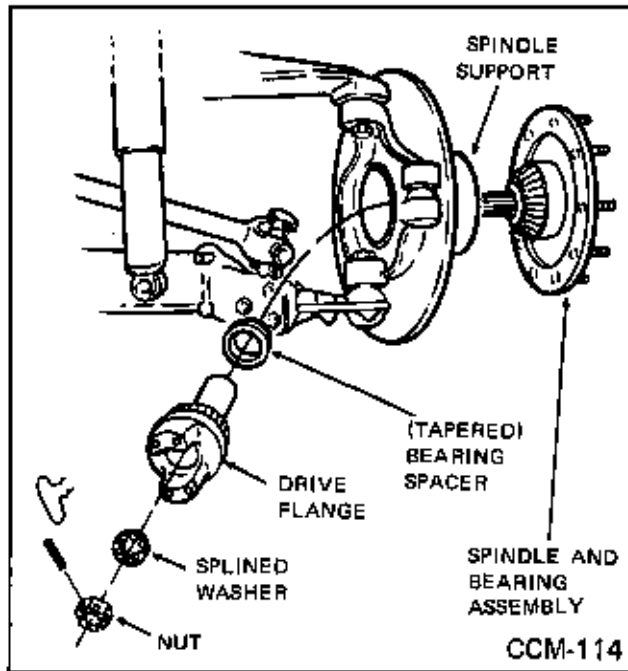

Fig. 109
15. Remove spindle and bearing assembly from spindle support. (Fig. 109)
16. Remove tapered bearing spacer. (Fig. 109)
1. After bearings have been repacked, care must be taken when installing spacer, to have taper down toward brake drum. (Fig. 109)
2. Install spindle and bearing assembly into spindle support. (Fig. 109)
3. Index drive flange to spindle spline and press together. If necessary to tap drive flange onto spindle, remove puller screw and use flange adapter for driving surface until splined washer can be properly indexed to spindle spline. (Fig. 109)